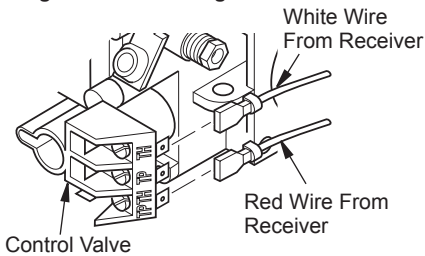

Figure 21 - Connecting Wires
9. Connect wires to control valve at the TPTH and TH locations as shown in Figure 21, page 17. *Note: Make sure excess wire does not interfere with burner or pilot.*